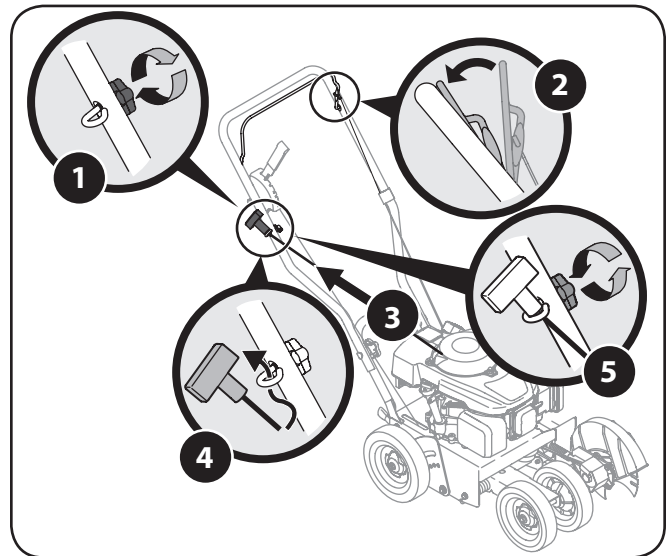

Figure 3-5
1. Locate the rope guide and wing knob found in the manual bag. Using the wing knob, secure but do not tighten the rope guide to the right side of the upper handle as shown in Figure 3-5.
**NOTE:** The starter rope will not pull out of the engine unless the blade control (refer to Figure 3-5) is depressed against the upper handle.